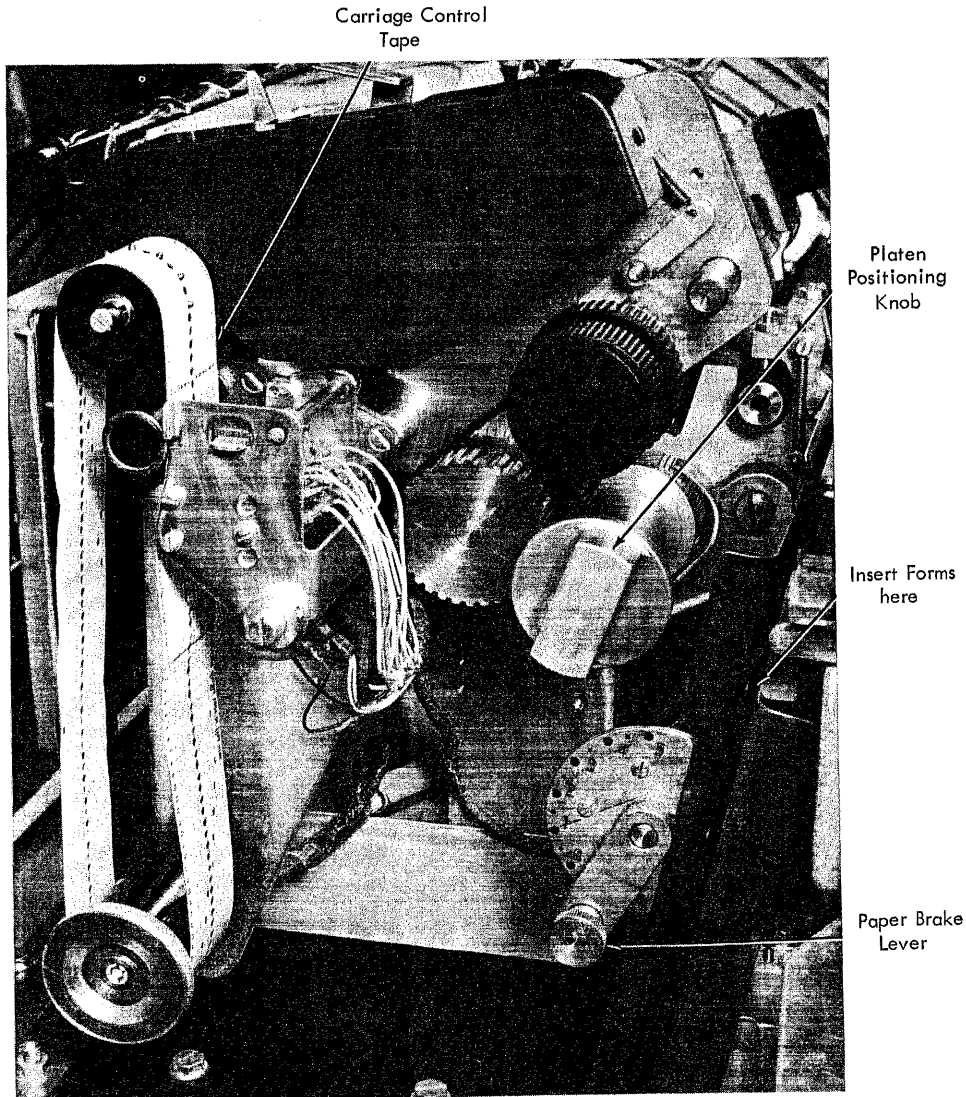

Figure 6. Manual Controls – Left Side of 1443
Paper Brake. (Figure 6.) This control is located on the left side of the lower forms guide. It has six positions: 0 to 5. Rotating the adjusting control clockwise increases the amount of drag exerted on the form.
8. Raise the paper form up and to the left of the printer so that — after the form is inserted — about one or two pages would extend beyond the Print-Line indicator. Insert the form from the left side into the opening just in front of the Paper Brake lever (refer to Figure 6).